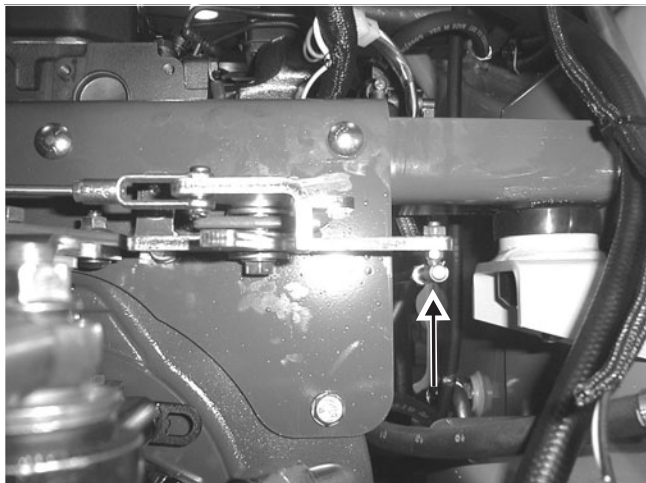

Fig. 6-51 Location of throttle rod ball joint on ball stud.
8. Next, disconnect ball joint on ball stud securing throttle control rod to throttle pivot. **Fig. 6-51**